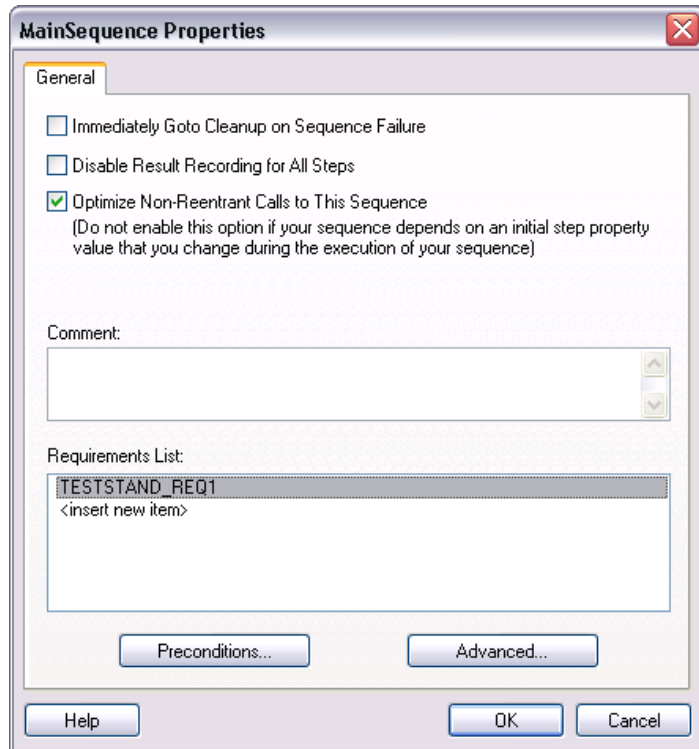

Figure 6-2. TestStand Sequence Properties Dialog Box
5. Select **<insert new item>** in the Requirements List and press <Ctrl-V> to paste the text from the clipboard. TestStand adds `TESTSTAND_REQ1` to the Requirements List, as shown in Figure 6-2.